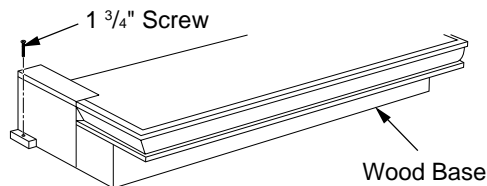

Figure 14 - Attaching Wood Base to Floor
10. Attach wood base to floor with two 1 3/4" black screws provided (see Figure 14). If the floor is concrete use anchor method (see *Attaching Wood Base to Solid Floor*, page 14).